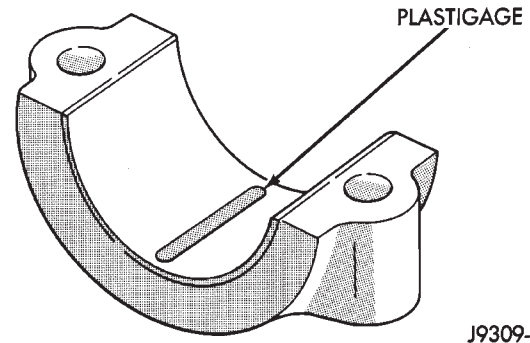

Fig. 2 Placement of Plastigage in Bearing Shell
- (1) Place a piece of Plastigage across the entire width of the bearing cap shell (Fig. 2). Position the Plastigage approximately 6.35 mm (1/4 inch) off center and away from the oil holes. In addition, suspect areas can be checked by placing the Plastigage in that area. Tighten the bearing cap bolts of the bearing being checked to 108 N·m (80 ft. lbs.) torque. **DO NOT rotate the crankshaft or the Plastigage may be smeared, giving inaccurate results.**
- (2) Remove the bearing cap and compare the width of the flattened Plastigage with the scale provided on
- (1) Remove oil film from surface to be checked. Plastigage is soluble in oil.
- (2) Place a piece of Plastigage across the entire width of the bearing cap shell (Fig. 2). Position the Plastigage approximately 6.35 mm (1/4 inch) off center and away from the oil holes. In addition, suspect areas can be checked by placing the Plastigage in the suspect area.
- (3) The crankshaft must be turned until the connecting rod to be checked starts moving toward the top of the engine. Only then should the rod cap with Plastigage in place be assembled. Tighten the rod cap nut to 45 N·m (33 ft. lbs.) torque. **DO NOT rotate**